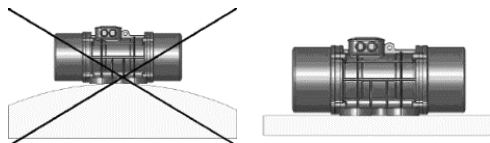

Figure 1 The mounting surface of the vibration motor
3、 The mounting surface of the vibration motor must be strong and flat (Figure 1). The planeness of the mounting surface should be less than 0.25mm (so that the internal stress generated in the frame of vibration motor can be minimized when the mounting bolt is tightened), the plate should not air holes and cracks; the mounting surface is not less than the bottom surface of the vibration motor; welding should be avoided in the mounting surface area, otherwise the flatness of the vibration motor mounting surface will be affected.